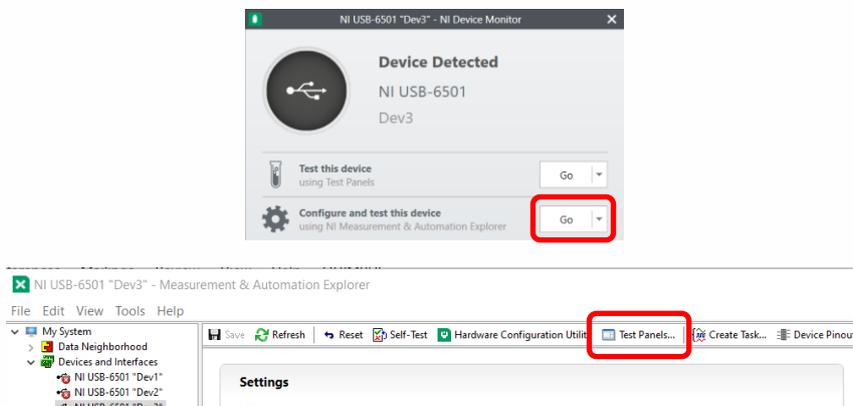

Figure 8: Open NI Device Manager, select 'Configure and test this device' (top, red square), and select 'Test Panels...' (bottom, red square)
- b. To confirm the correct port, select 'Configure and test this device', and select 'Test Panels...' from the window (Figure 8).